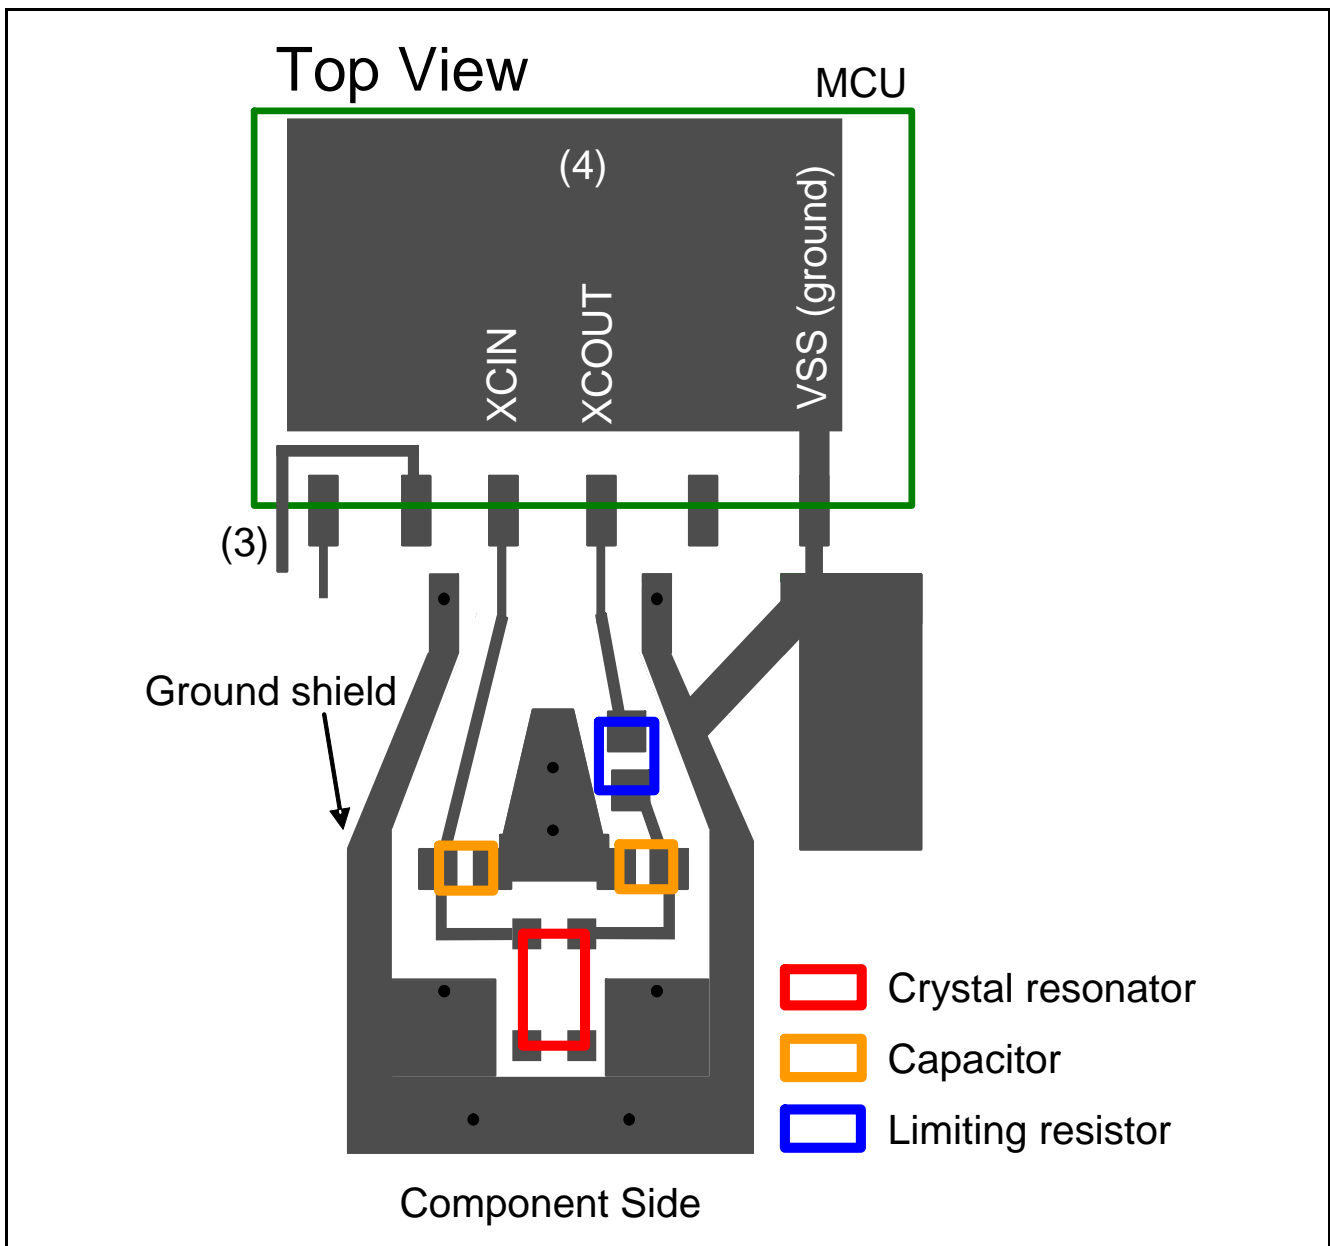

Figure 1.12 Trace Example for Other Points in the 100-pin, 144-pin, and 176-pin LQFP Packages
(1) to (4) below describe other points common between packages. Figure 1.12 shows a trace example for the 100-pin, 144-pin, and 176-pin LQFP packages.